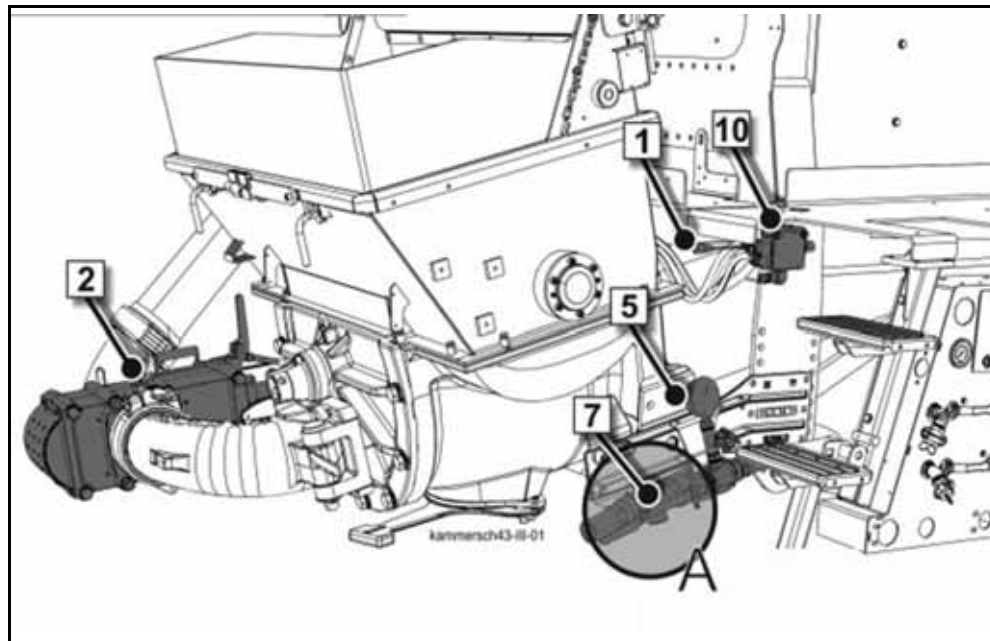
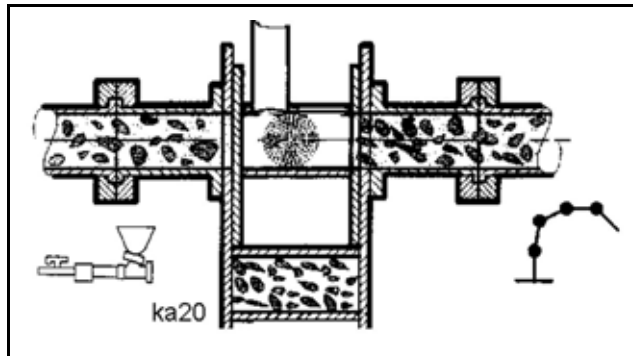

Fig. 590 Complete chamber valve
Fig. 602
- Use caution when opening the ball valve (7) (**Fig. 590**). Residual concrete can be ejected from the blow valve opening.
The chamber valve is installed in the pumping line for the boom outlet on the rear of the machine (2) (Fig. 590).
The control devices for the system are located on the rear of the machine, on the right (1) (Fig. 590).
Caption for (Fig. 590), (Fig. 591)
- Shut the ball valves for the air system (6) (**Fig. 591**) and (7) (**Fig. 590**).
<p>10214311</p>	<p>Actuate the control lever (1) (Fig. 590) until the chamber with the ball is completely inside the gate valve housing (Fig. 602).</p> <p>The connection between the concrete pump and boom pumping line is then interrupted. When the spring-centred control lever (1) (Fig. 590) is released, it returns to the "Neutral position".</p>
- Open the ball valves for the air system (6) (**Fig. 591**) (7) (**Fig. 590**).
- Slowly shut the ball valve (7) (**Fig. 590**).
- During the cleaning process, monitor the compressed-air pressure gauge continuously (5) (**Fig. 590**).
Immediately open the ball valve (7) (**Fig. 590**)!
- Completely open the ball valve (7) (**Fig. 590**) when the ball has come out of the pumping line.
Extend the valve chamber only while the compressor is off and the pressure gauge (5) (**Fig. 590**) displays "0 bar".
- Depressurise the pumping line by opening the discharge ball valve (7) (**Fig. 590**).